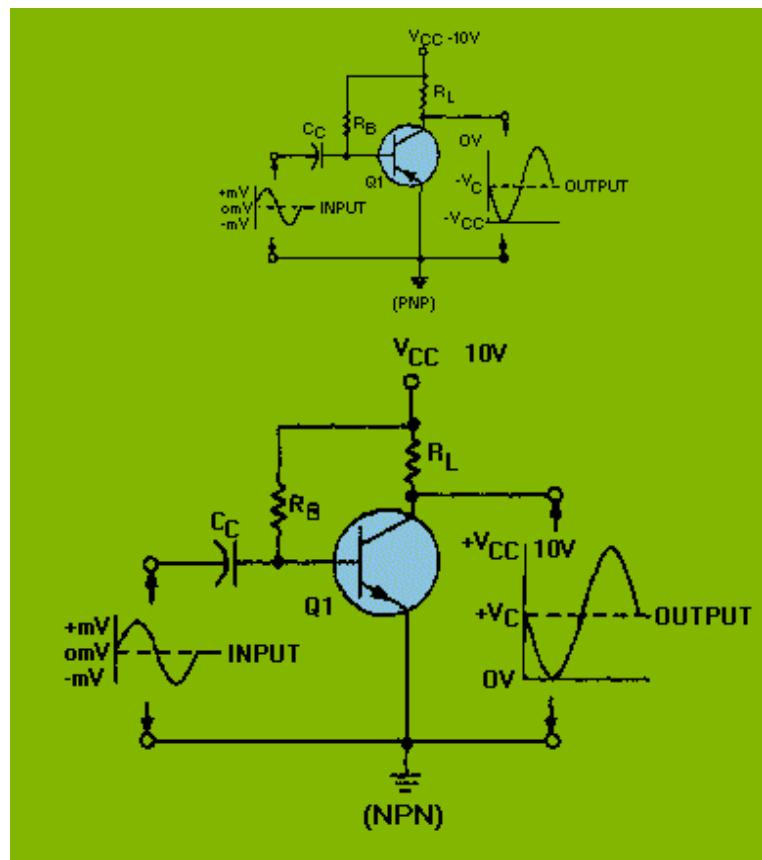
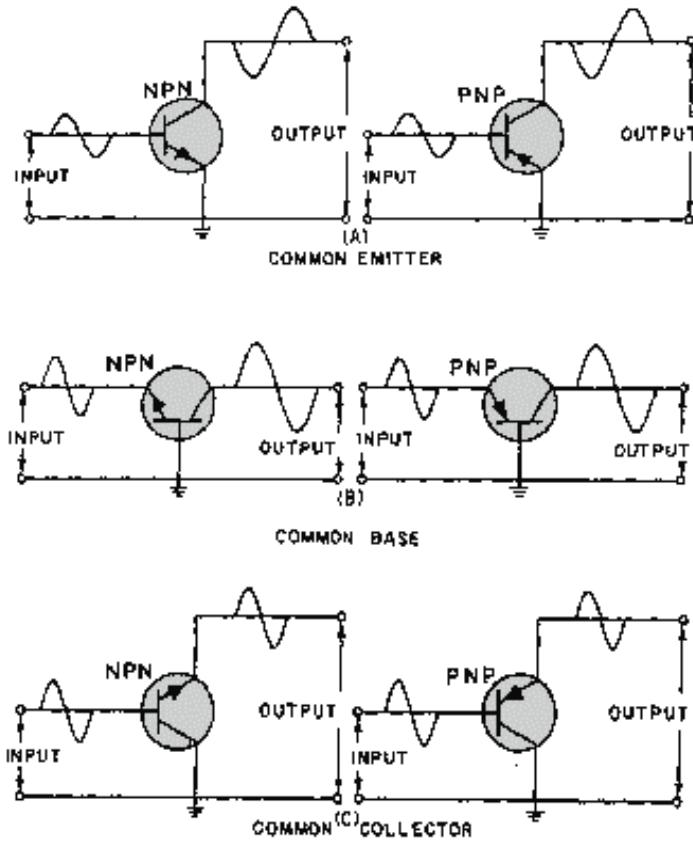

Figure 2-12.—The basic transistor amplifier.
Figure 2-16.—Transistor configurations.
Now take a look at the NPN version of the basic transistor amplifier in figure 2-12 and let's see just how it works.
By inserting one or more resistors in a circuit, different methods of biasing may be achieved and the emitter-base battery eliminated. In addition to eliminating the battery, some of these biasing methods compensate for slight variations in transistor characteristics and changes in transistor conduction resulting from temperature irregularities. Notice in figure 2-12 that the emitter-base battery has been eliminated and the bias resistor R_B has been inserted between the collector and the base. Resistor R_B provides the necessary forward bias for the emitter-base junction. Current flows in the emitter-base bias circuit from ground to the emitter, out the base lead, and through R_B to V_{CC} . Since the current in the base circuit is very small (a few hundred microamperes) and the forward resistance of the transistor is low, only a few tenths of a volt of positive bias will be felt on the base of the transistor. However, this is enough voltage on the base, along with ground on the emitter and the large positive voltage on the collector, to properly bias the transistor.
The first biasing method, called BASE CURRENT BIAS or sometimes FIXED BIAS, was used in figure 2-12. As you recall, it consisted basically of a resistor (R_B) connected between the collector supply voltage and the base. Unfortunately, this simple arrangement is quite thermally unstable. If the temperature of the transistor rises for any reason (due to a rise in ambient temperature or due to current flow through it), collector current will increase. This increase in current also causes the dc operating point, sometimes called the quiescent or static point, to move away from its desired position (level). This reaction to temperature is undesirable because it affects amplifier gain (the number of times of amplification) and could result in distortion, as you will see later in this discussion.
Biasing an amplifier in this manner places the dc operating point between cutoff and saturation and allows collector current to flow during the complete cycle (360 degrees) of the input signal, thus providing an output which is a replica of the input. Figure 2-12 is an example of a class A amplifier. Although the output from this amplifier is 180 degrees out of phase with the input, the output current still flows for the complete duration of the input.
A transistor may be connected in any one of three basic configurations (fig. 2-16): common emitter (CE), common base (CB), and common collector (CC). The term common is used to denote the element that is common to both input and output circuits. Because the common element is often grounded, these configurations are frequently referred to as grounded emitter, grounded base, and grounded collector.
Therefore, by applying these three simple steps to the circuit in figure 2-12, we can conclude that this circuit is more than just a basic transistor amplifier. It is a common-emitter amplifier.
The common-emitter configuration (CE) shown in figure 2-16 view A is the arrangement most frequently used in practical amplifier circuits, since it provides good voltage, current, and power gain. The common emitter also has a somewhat low input resistance (500 ohms-1500 ohms), because the input is applied to the forward-biased junction, and a moderately high output resistance (30 kilohms-50 kilohms or more), because the output is taken off the reverse-biased junction. Since the input signal is applied to the base-emitter circuit and the output is taken from the collector-emitter circuit, the emitter is the element common to both input and output.
Since you have already covered what you now know to be a common-emitter amplifier (fig. 2-12), let's take a few minutes and review its operation, using the PNP common-emitter configuration shown in figure 2-16 view A.
The common-base configuration (CB) shown in figure 2-16, view B is mainly used for impedance matching, since it has a low input resistance (30 ohms-160 ohms) and a high output resistance (250 kilohms-550 kilohms). However, two factors limit its usefulness in some circuit applications: (1) its low input resistance and (2) its current gain of less than 1. Since the CB configuration will give voltage amplification, there are some additional applications, which require both a low-input resistance and voltage amplification, that could use a circuit configuration of this type; for example, some microphone amplifiers.
Unlike the common-emitter circuit, the input and output signals in the common-base circuit are in phase. To illustrate this point, assume the input to the PNP version of the common-base circuit in figure 2-16 view B is positive. The signal adds to the forward bias, since it is applied to the emitter, causing the collector current to increase. This increase in I_c results in a greater voltage drop across the load resistor R_L (not shown), thus lowering the collector voltage V_C . The collector voltage, in becoming less negative, is swinging in a positive direction, and is therefore in phase with the incoming positive signal.
The common-collector configuration (CC) shown in figure 2-16 view C is used mostly for impedance matching. It is also used as a current driver, because of its substantial current gain. It is particularly useful in switching circuitry, since it has the ability to pass signals in either direction (bilateral operation).